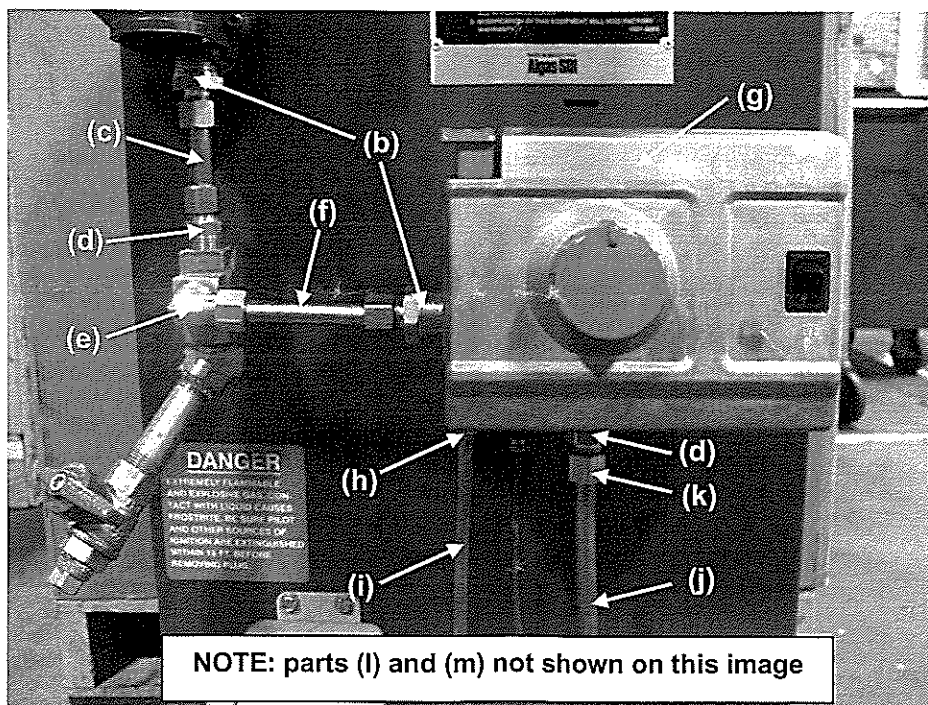

Figure 3. Installing new thermostat assembly
7. Cut 3/8" copper tubing (c) to fit to align brass outlet elbow fitting (e) and thermostat inlet fitting (b) as shown in Figure 3.